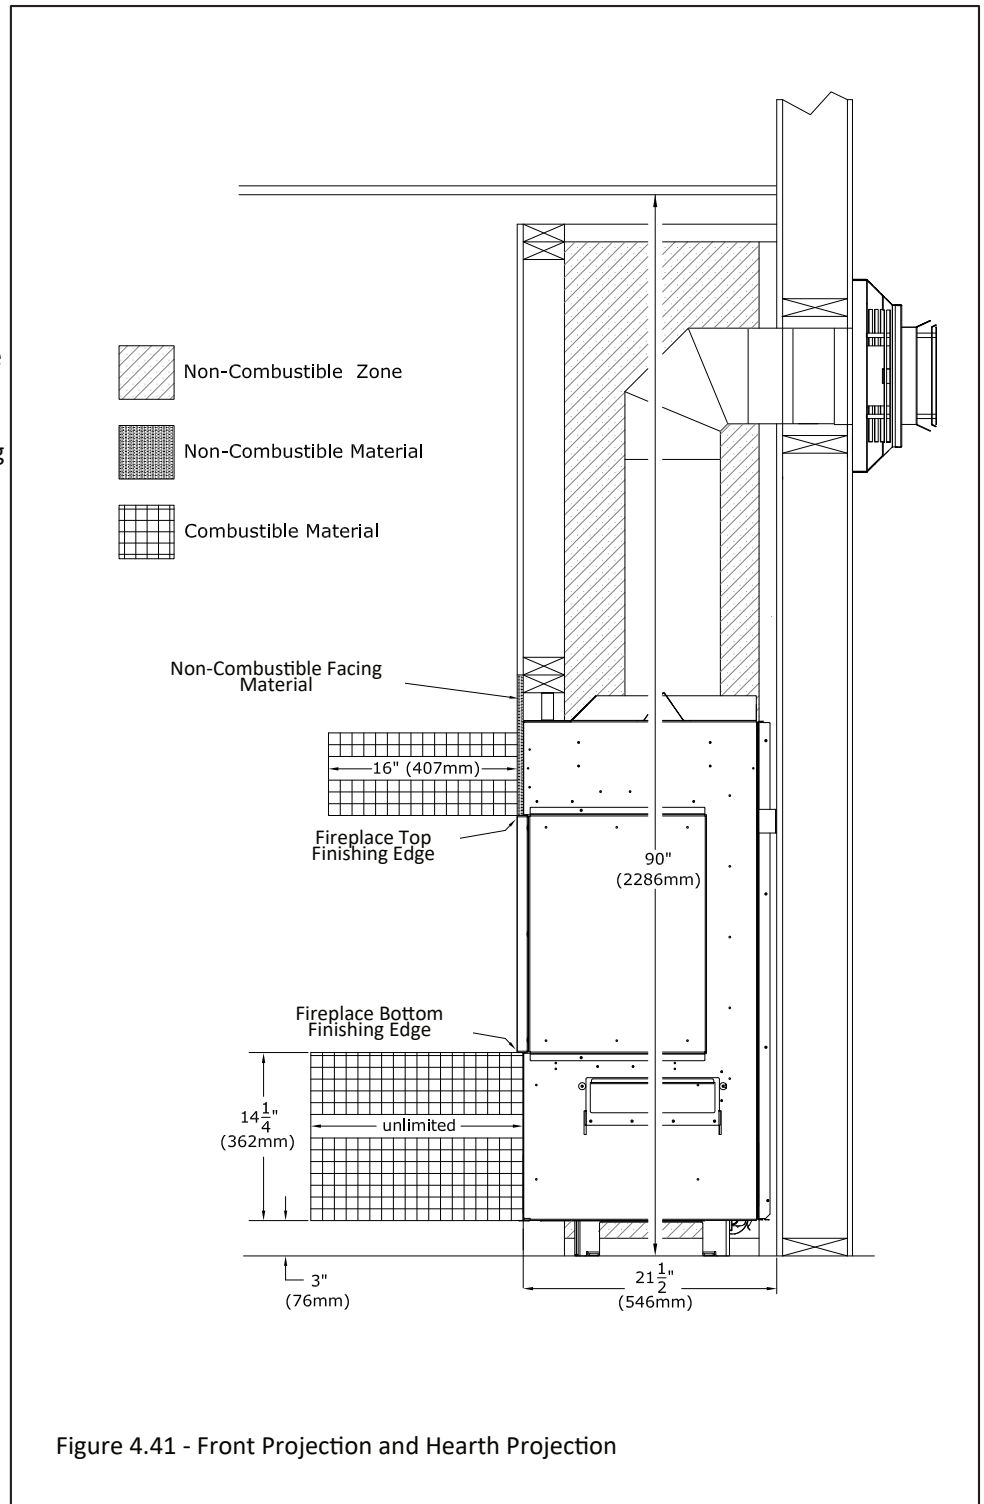

Figure 4.41 - Front Projection and Hearth Projection
- **Combustible Mantel Projections:** A maximum of a 16" (406mm) mantel can be installed flush at the top finishing edge. See Figure 4.41.
- **Combustible Hearth:** Combustible hearth can have an unlimited projection. Hearth can be raised flush to the bottom finishing edge. See Figure 4.41.